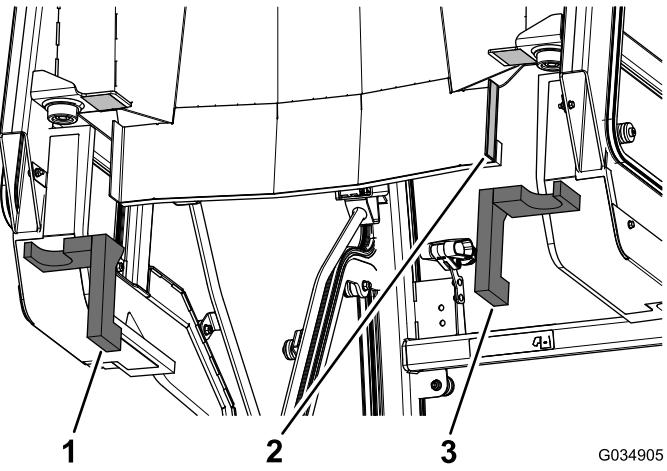

Figure 14
1. Remove the paper backing from the double-faced tape at the back of the cab unit (Figure 14).
2. Apply the left, rear and right, rear foam seals to the cab unit (Figure 14).